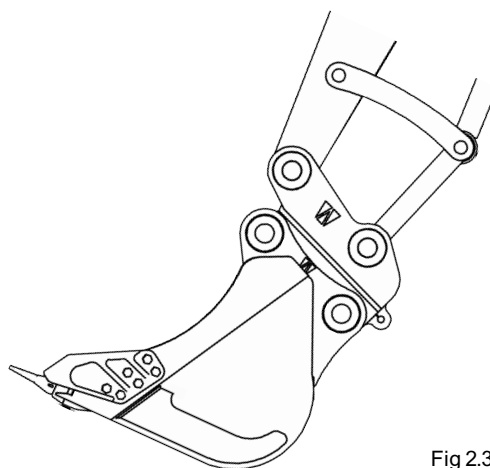

Fig 2.3.1
- Using the excavator arm control levers position the attachment slightly above the ground so that the rear pin (second pin) is lower than the front pin (first pin). Using the operating ratchet spanner rotate the threaded actuator anti-clockwise until the primary wedge is fully retracted (Fig 2.3.1)